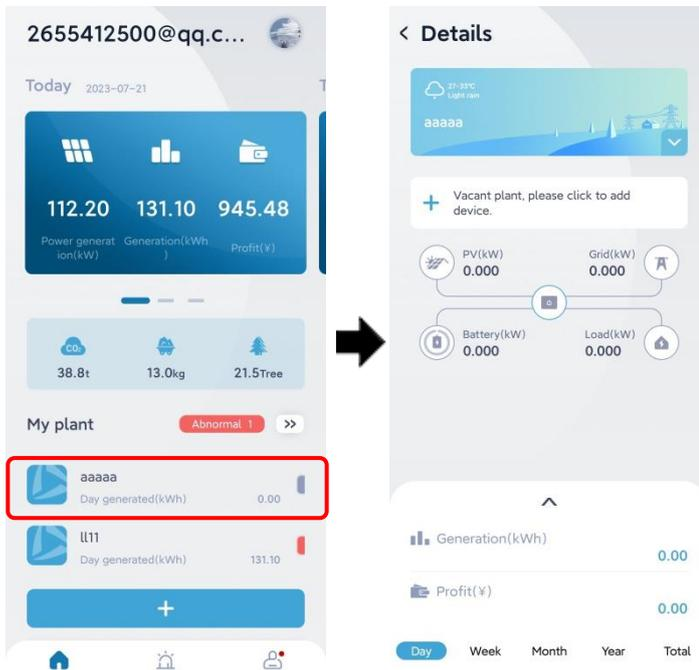

Figure4-7 Plant details page
Step 7 Back to main page and click the built power station, as shown in Figure4-7.